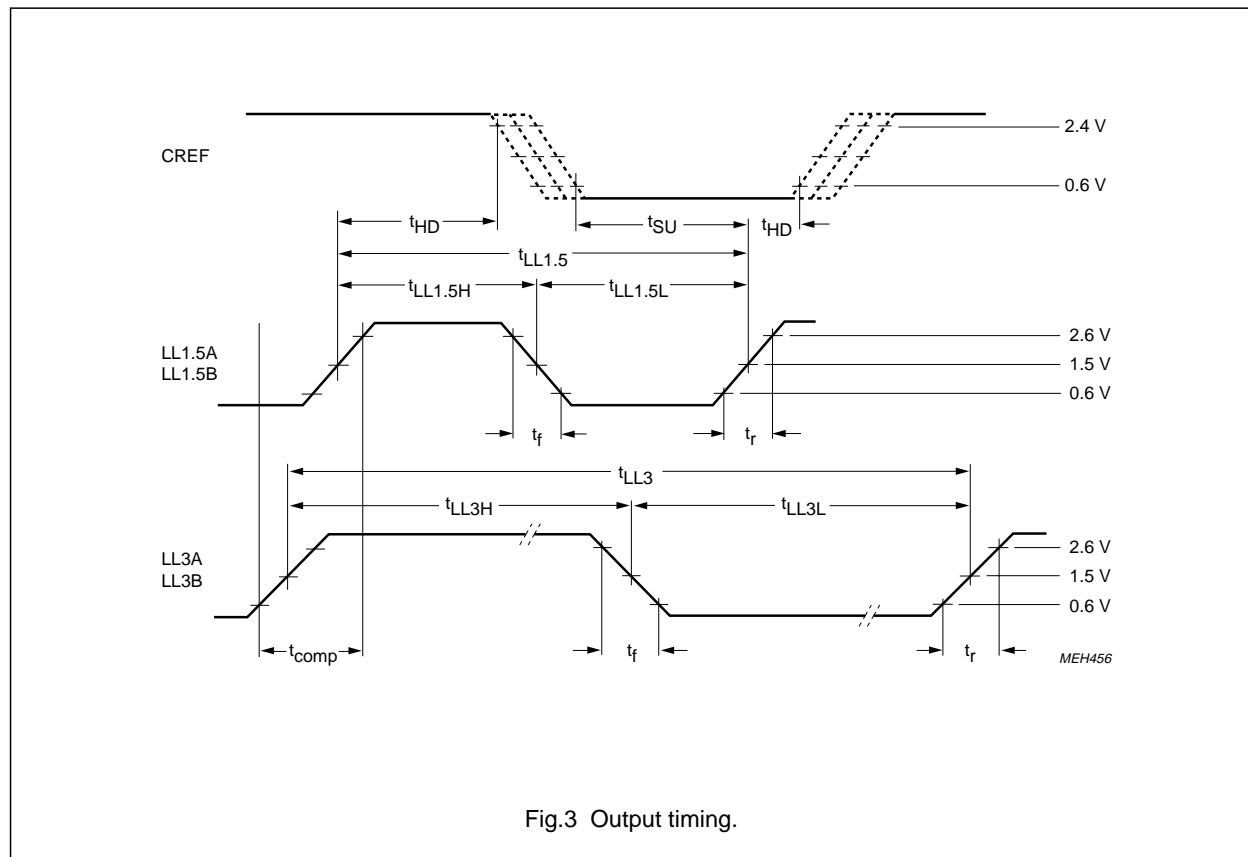

Fig.3 Output timing.
- $f_{LFCO} = 7.0 \text{ MHz}$ and output load 40 pF (Fig.3). V_{SSA} and V_{SSD} short connected together.
- t_{comp} is the rise time from LOW of all clocks to HIGH of all clocks (Fig.3) including rise time, skew and jitter components. Measurements taken between 0.6 V and 2.6 V. Skew between two LLx clocks will not deviate more than $\pm 2 \text{ ns}$ if output loads are matched within 20%.